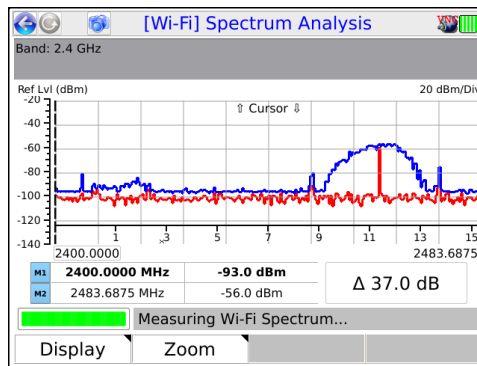

Figure 3-11 Sample spectral analysis of the 2.4 GHz range
- **Peak Hold** - Enables an additional graph that represents the maximum power levels seen at all points on the spectrum, since the peak hold was activated. To reset the graph, toggle this command. The blue line on Figure 3-11 is a peak hold plot.